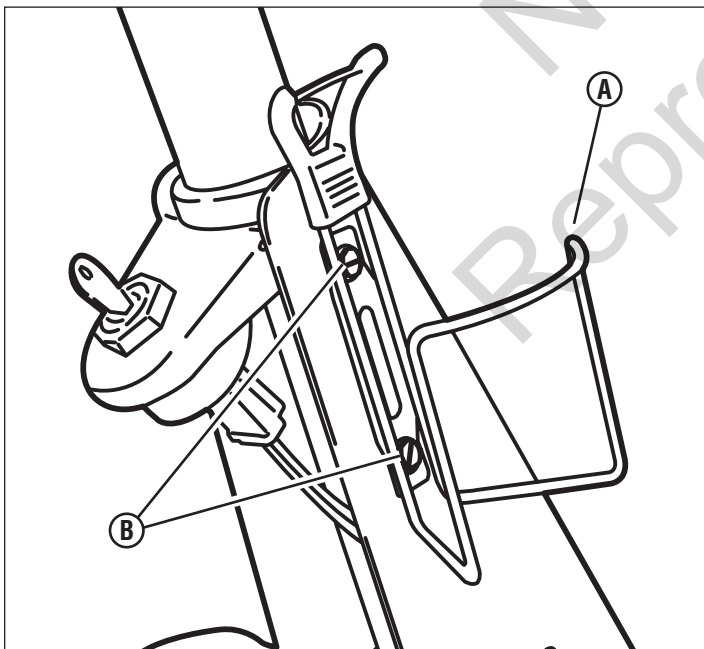

Figure 20
- Attach the water bottle holder (A, Figure 20) to the right side of the steering column with two hex washer self-tapping screws (B). Tighten securely.